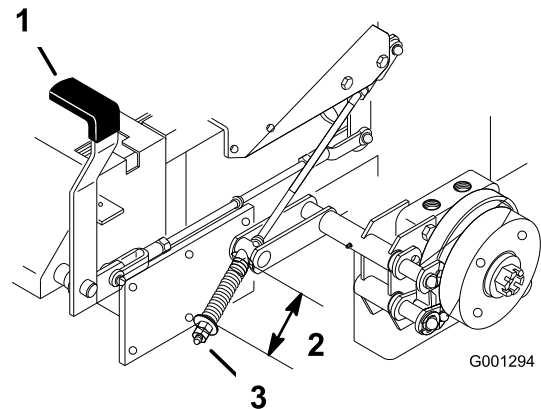

Figure 80
2. Measure the length of the spring (Figure 80).
3. If adjustment is necessary, disengage the parking brake, loosen the jam nut below the spring and adjust the nut directly below the spring (Figure 80).